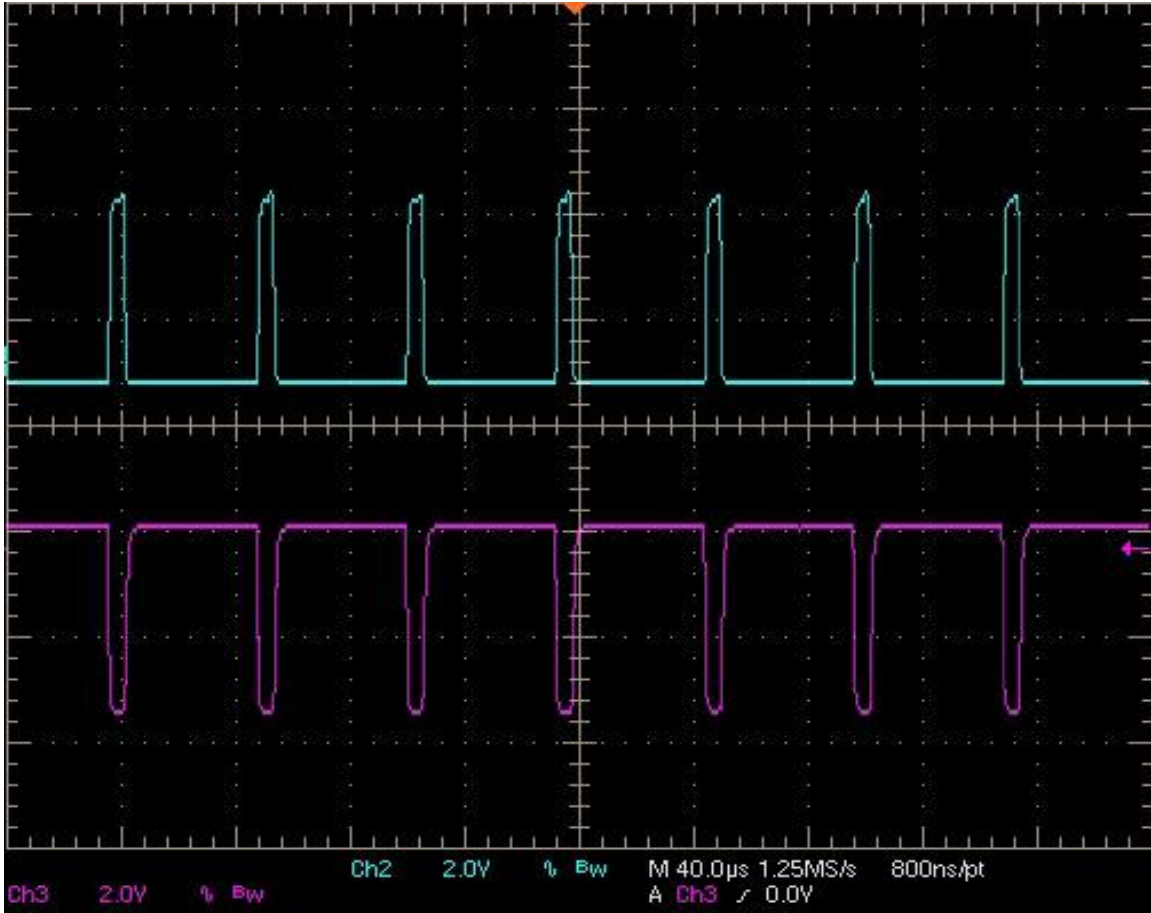

Figure 3: Logically inverted waveforms
- Connect the oscilloscope to pins TX and TXI (pins 7 and 9 resp. of connector J3). Verify that the both pins output a 3.3Vpp square wave of 19.2 kHz. Use the ground at pins 4 or 6 for the probe measurement. TXI should be logically inverted from TX (see figure 3).